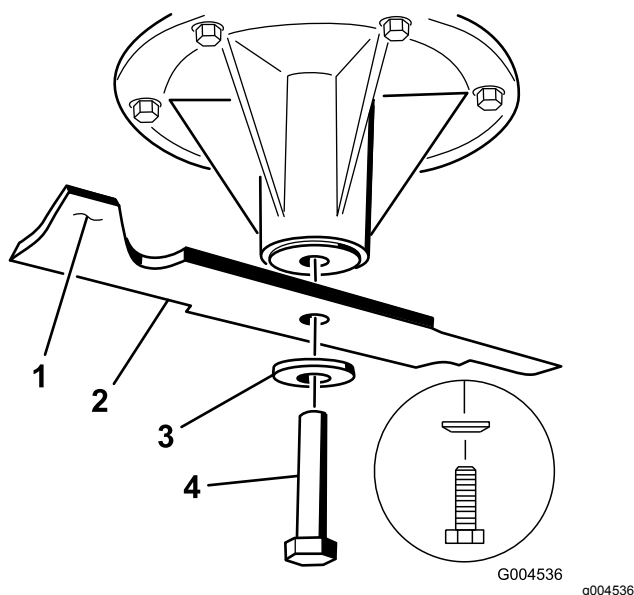

Figure 77
- Install the blade onto the spindle shaft (Figure 77).
- Install the spring disk and blade bolt (Figure 77).
Note: The spring-disk cone must be installed toward the bolt head (Figure 77).